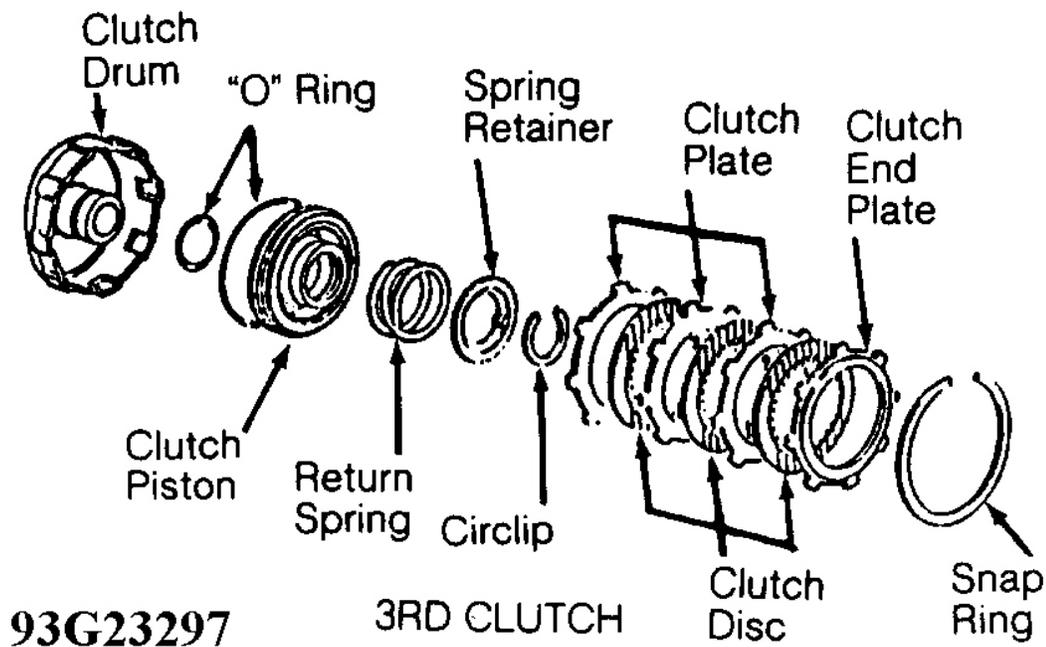

Fig. 23: Exploded View Of Clutch Assemblies (2 of 3)
2. On all clutches, use Spring Compressor (07HAE-PL50100), Adapter (07960-6120100) and Bolt (07GAE-PG40200) to compress return spring. See **Fig. 23** .
5. Momentarily apply air to oil passage on clutch drum and ensure clutch piston moves and clutch engages. Using dial indicator, measure clutch clearance between clutch end plate and top clutch disc. See **Fig. 23** .
- If replacing differential bearings, use bearing puller to remove differential bearings from differential carrier. Remove bolts and ring gear. See **Fig. 23** .